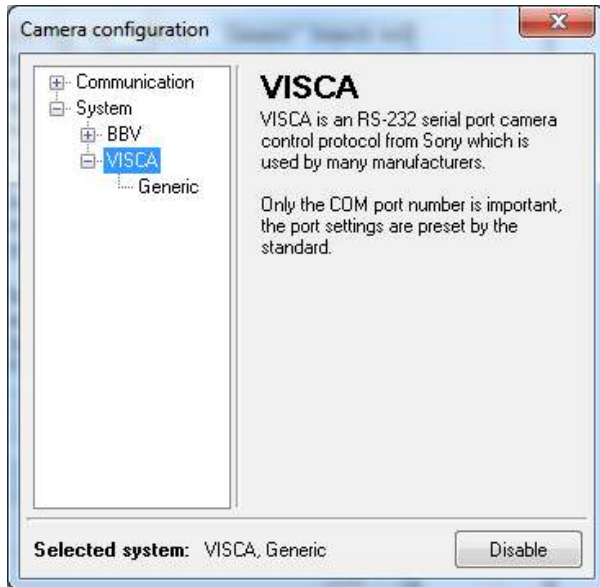

Fig. 2: Camera configuration panel
**Step 2:** Determine the ceiling height at the operating area and use a diagram similar to figure 2 to get the range diameter.
Fig.2: Use the ceiling height to find the IR signal coverage for a single transceiver, for example, at 3.5 metres ceiling height, the diameter is 6 metres.  $6 \times 0.9$  is 5.4 metres.